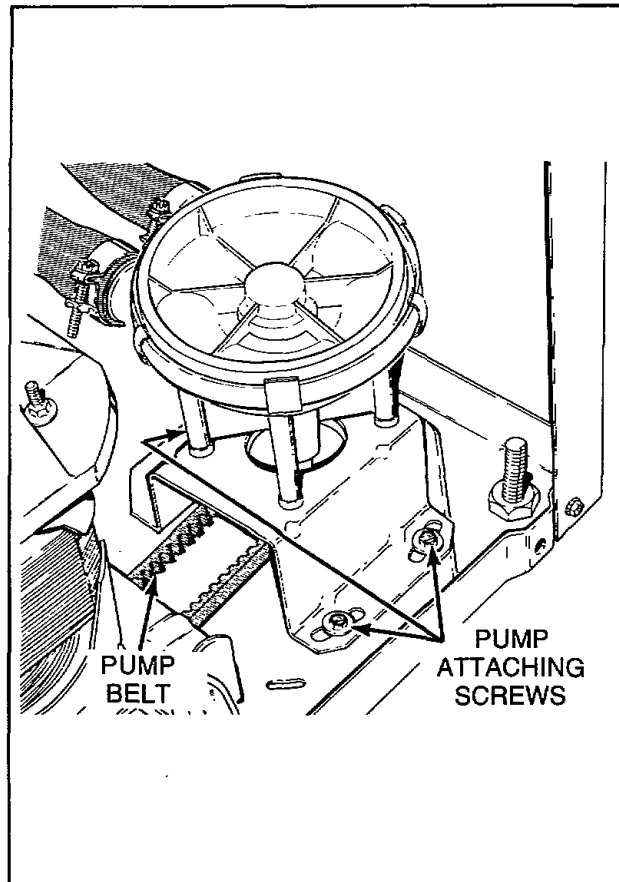

Figure 15
- c. Remove the two front mounting screws and loosen the rear mounting screw holding pump and bracket to washer base, *Figure 15*, shift pump assembly toward motor to loosen belt tension.
- c. Remove two front mounting screws and loosen the rear mounting screw holding pump and bracket to washer base, *Figure 15*, pivot entire assembly toward motor to loosen belt tension.
- d. Remove the two front mounting screws and loosen the rear mounting screw holding pump and bracket to washer base, *Figure 15*, shift pump assembly toward motor to loosen belt tension.
- d. Remove the two front mounting screws and loosen the rear mounting screw holding pump and bracket to washer base, *Figure 15*, pivot entire assembly toward motor to loosen belt tension.